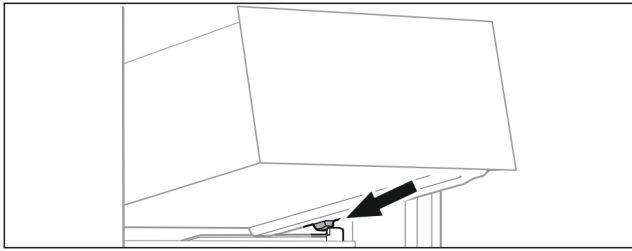

Fig. 66
- ▶ Place drawer at an angle behind the stoppers on the moulded rib. (see *Fig. 66*)